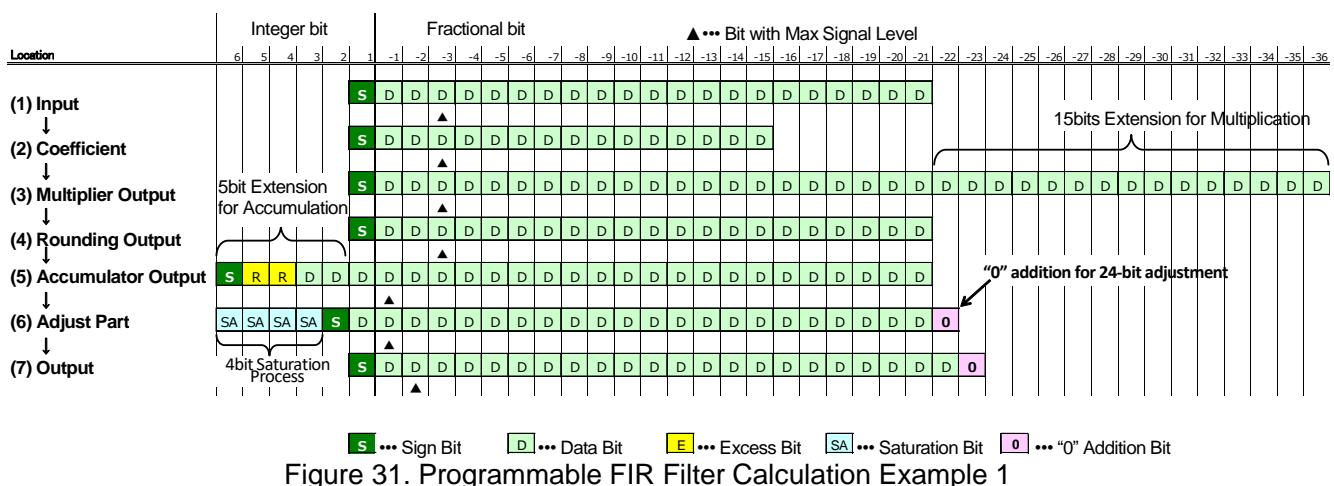

Figure 31. Programmable FIR Filter Calculation Example 1
- (1) Input bit length is (1.21). The maximum input signal level of programmable FIR filter is -13dBFS at full scale range (Figure 15). Therefore, the maximum signal is at -3 Fractional bit (▲) in Figure 31.
- (2) Coefficient written by register setting. It has (1.15) bit length.
- (3) Multiplication result of (1) and (2). Input signal is extended 15 bits for the bit length of the maximum coefficient.
- (4) Round the data off to 21 bits to reduce the circuit size.
- (5) Higher 5 bits are extended for accumulation. In this case, there are 2 excess bits although it is extended 5 bits according to the absolute maximum total coefficient. Since the filter DC gain is 4 times larger (+12dB), the maximum signal bit is shifted 2 bits to the left.
- (6) Execute saturation process. In this case, 4-bit saturation process is executed to make the maximum signal level bit is higher second bit as total gain of the digital filter should be 0dB (-7dBFS). Bit length becomes 23-bit by executing 4-bit saturation process. Therefore, add “0” data to the LSB for 1 bit to make the data 24 bits.
- (7) At final output, the decimal point is shifted 1-bit to the left and the data becomes (1.23). It expresses that the input signal is increased by 6dB, and the digital filter total gain is 0dB (-7dBFS).